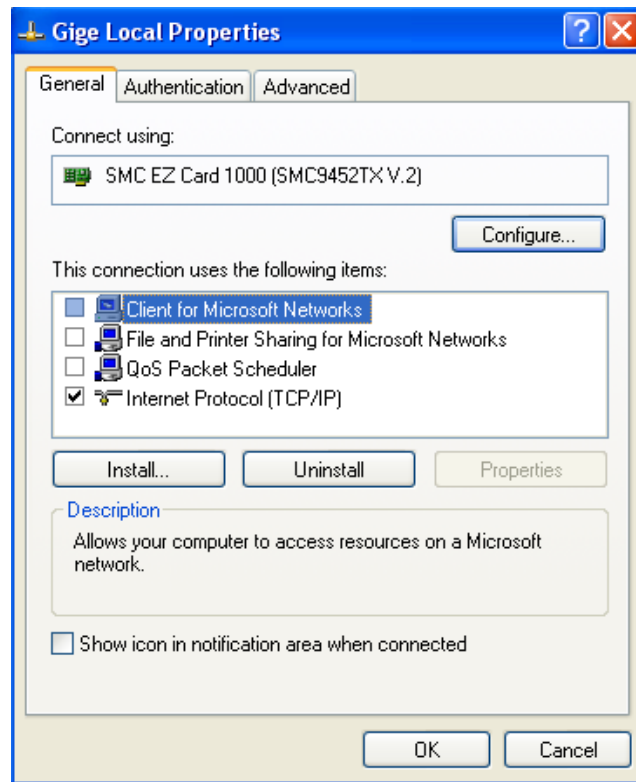
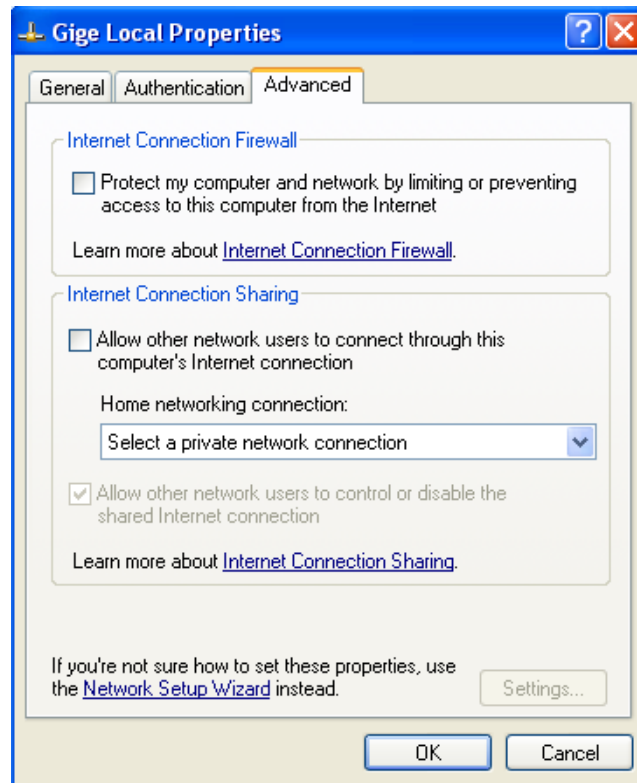

Figure 5. Network card main properties window.
Figure 7. Turn off Firewall.
- Once the driver is installed, open the Network Connections Dialog as follows: From the Windows desktop select **start**, then select **Control Panel**, then double click on the **Network Connections** icon. Double click the relevant network card listed or right-click the relevant network card and select **Properties**. This will open the properties window for your network card. See Figure 5.
- Return to the Gige Local Properties window as in Figure 5. Select the Advanced tab as in Figure 7 and disable the Firewall for this device. Click **OK** to save changes.